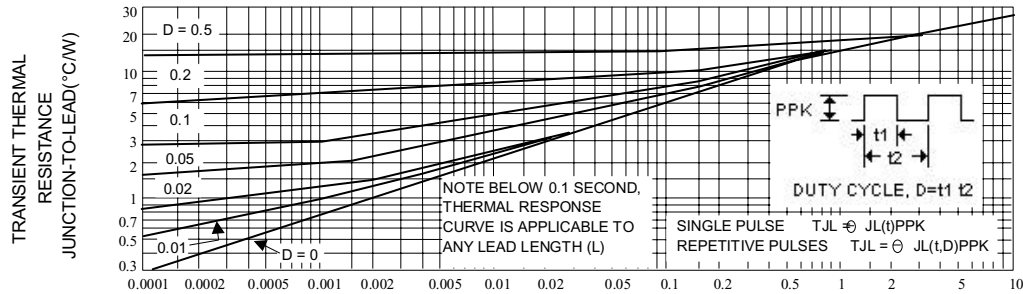
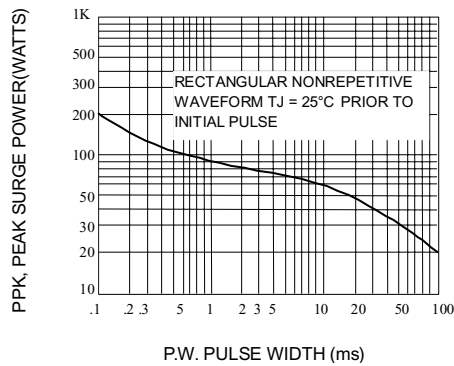

Fig. 2-TYPICAL THERMAL RESPONSE L,
Fig. 3-MAXIMUM SURGE POWER
4. SURGE CURRENT (Ir) NON-REPETITIVE - The rating listed in the electrical characteristics table is maximum peak, non-repetitive, reverse surge current of 1/2 square wave or equivalent sine wave pulse of 1/120 second duration superimposed on the test current, IZT, per JEDEC standards, however, actual device capability is as described in Figure 3.
$\Delta T_{JL}$  is the increase in junction temperature above the lead temperature and may be found from Figure 2 for a train of power pulses or from Figure 10 for dc power.
Data of Figure 2 should not be used to compute surge capability. Surge limitations are given in Figure 3. They are lower than would be expected by considering only junction temperature, as current crowding effects cause temperatures to be extremely high in small spots resulting in device degradation should the limits of Figure 3 be exceeded.